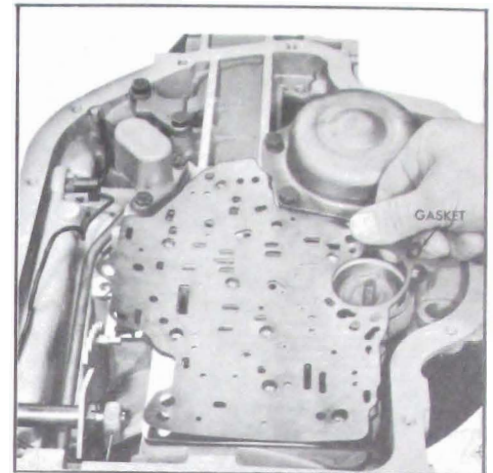

Figure 5-515
4. Remove the control valve assembly to spacer gasket. See Figure 5-515.